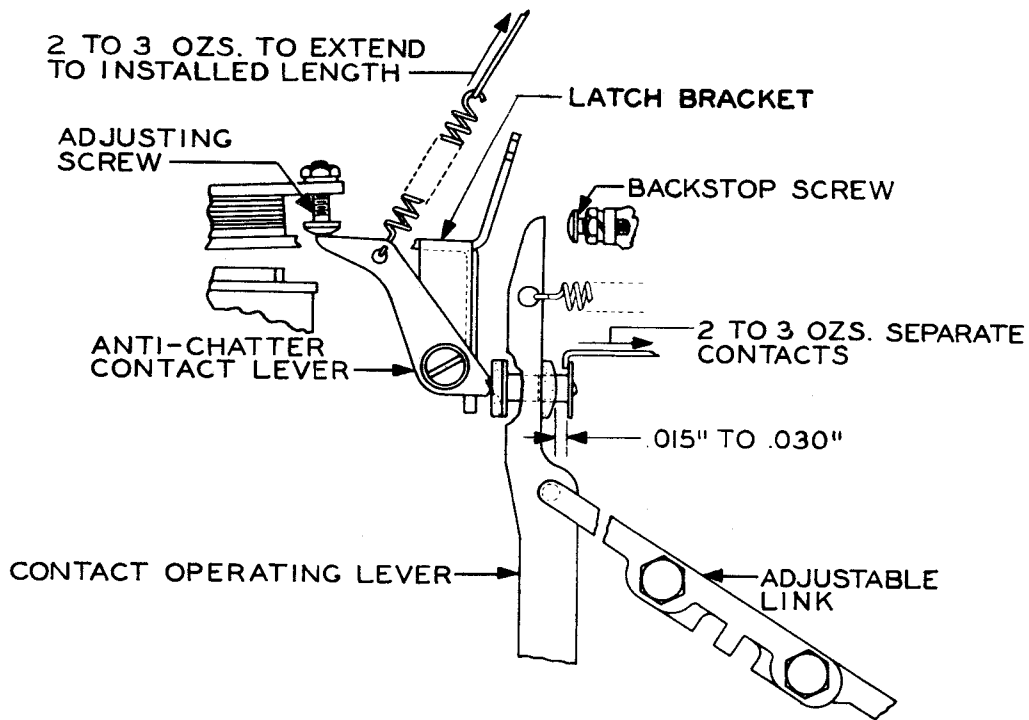

Figure 10
- (2) It should require a pull as specified in the figure to separate the contact points with any keylever depressed. See Figure 10.
To Adjust: Position the adjusting screw. See Figure 10.
To Adjust: Position the latch bracket for the antichatter contact lever and recheck (1) and (2). See Figure 10.
- (4) It should require a spring tension as specified in the figure to stretch the antichatter contact lever spring to its installed length. See Figure 10.
There should be a clearance as specified in the figure between the right contact spring and the insulator on the contact operating lever. See Figure 10.